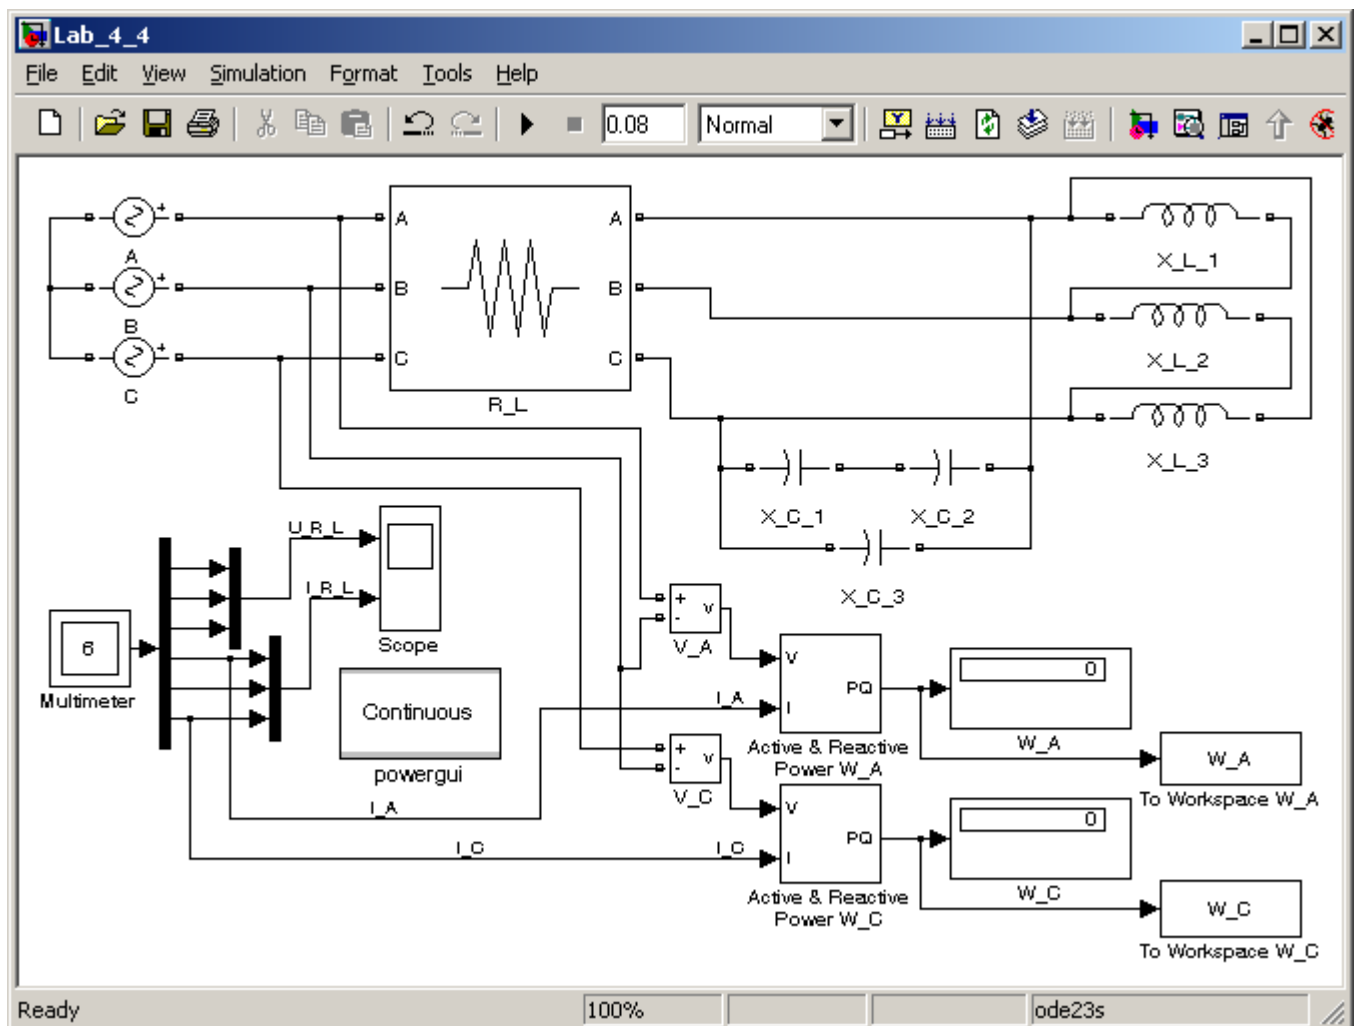

Fig. 8.2. An example of a circuit model created in Simulink
3. Using the example shown in Fig.8.2, create your model according to the option in table 8.1. Connect the blocks with connecting lines and rename all the elements according to the task. Calculate the Simulation Time according to the equation and change it (Simulation → Simulation Parameters):